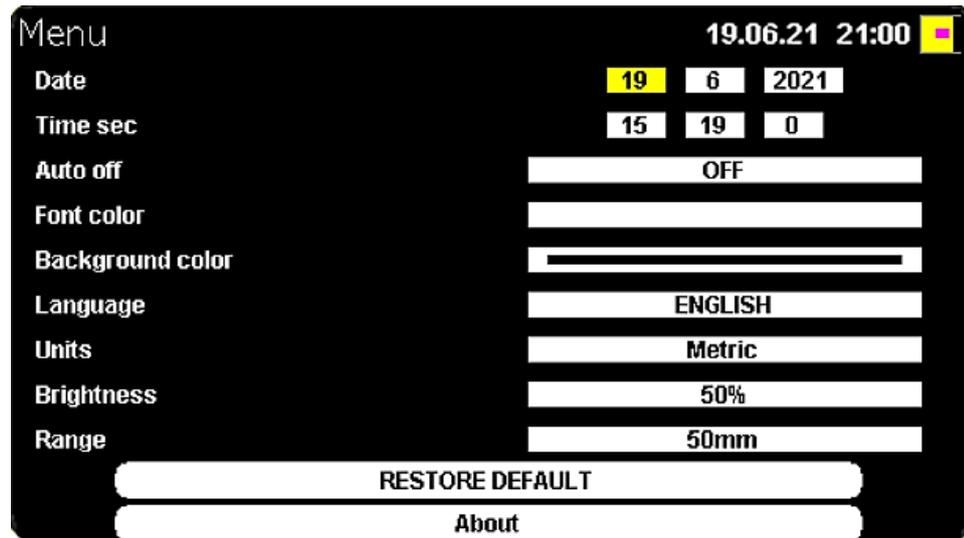

Figure 2.6 – Device settings
2.6.1 To edit the Device settings (Figure 2.6), press the  button. The description of the Device interface settings is given in Table 2.4.